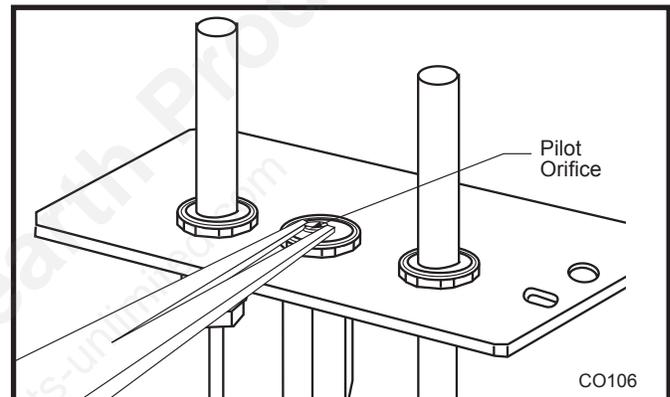

Fig. 77 Remove pilot orifice.
- Remove pilot orifice with needlenose pliers. (Fig. 77)